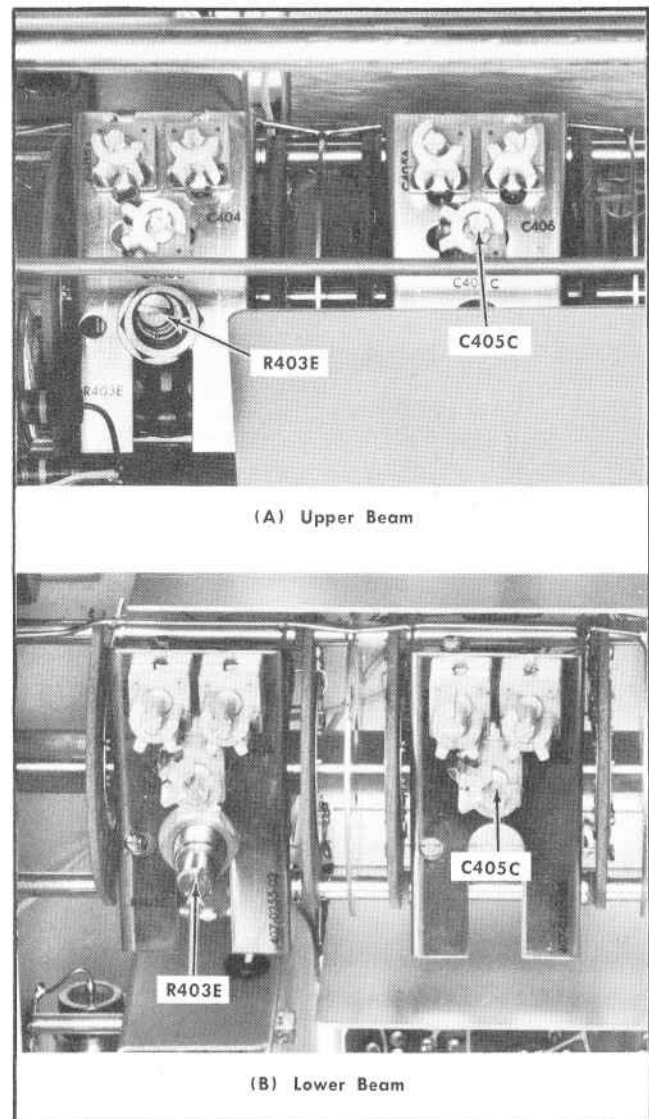

Fig. 6-28. Location of attenuator common-mode balance adjustments (step 30).
b. Adjust R403E on the Upper Beam SENSITIVITY switch (see Fig. 6-28) for minimum common-mode deflection of the Upper-Beam trace. When R403E is properly adjusted, there should be no discernible common-mode display (5000:1 CMRR = 0.2 mm deflection).
- e. Adjust C405C on the Upper Beam SENSITIVITY switch (see Fig. 6-28) for ≤ 2 mm of common-mode signal (500:1 CMRR). Note: C405C was previously adjusted in Step 28.